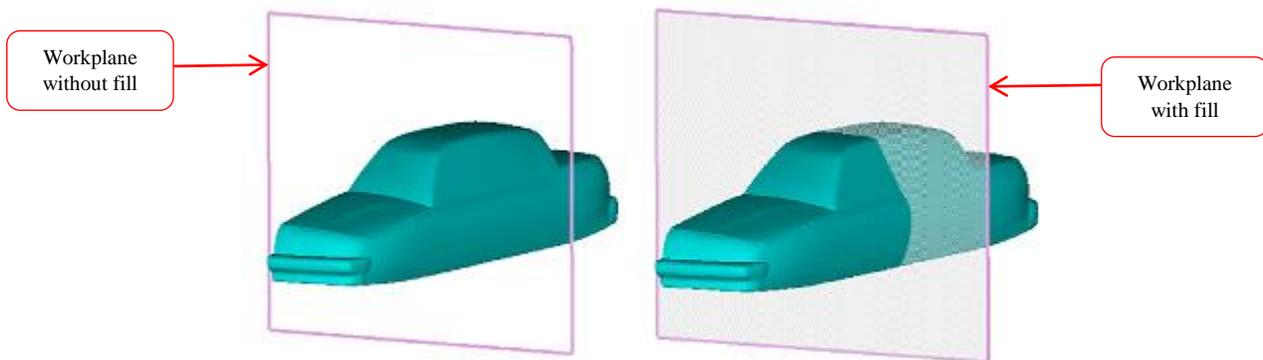

Figure 2.82: With and without fill for workplane
**Fill** operation of workplane serves as a visual aid. Clicking on the **Fill** option will leave the workplane rectangle shaded in translucent white. Usually, the **Fill** operation is most useful when a side of the surface is clipped and you want to better orient your eyes to the view screen. Essentially, the **Fill** operation locates the workplane for you and allows you to view better 2-dimensional slices of a surface as seen in Figure 2.82.